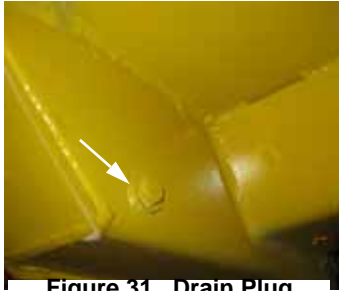

Figure 31 Drain Plug
2. Remove the drain plug on each chaincase (Figure 31) and drain the oil into a suitable container.